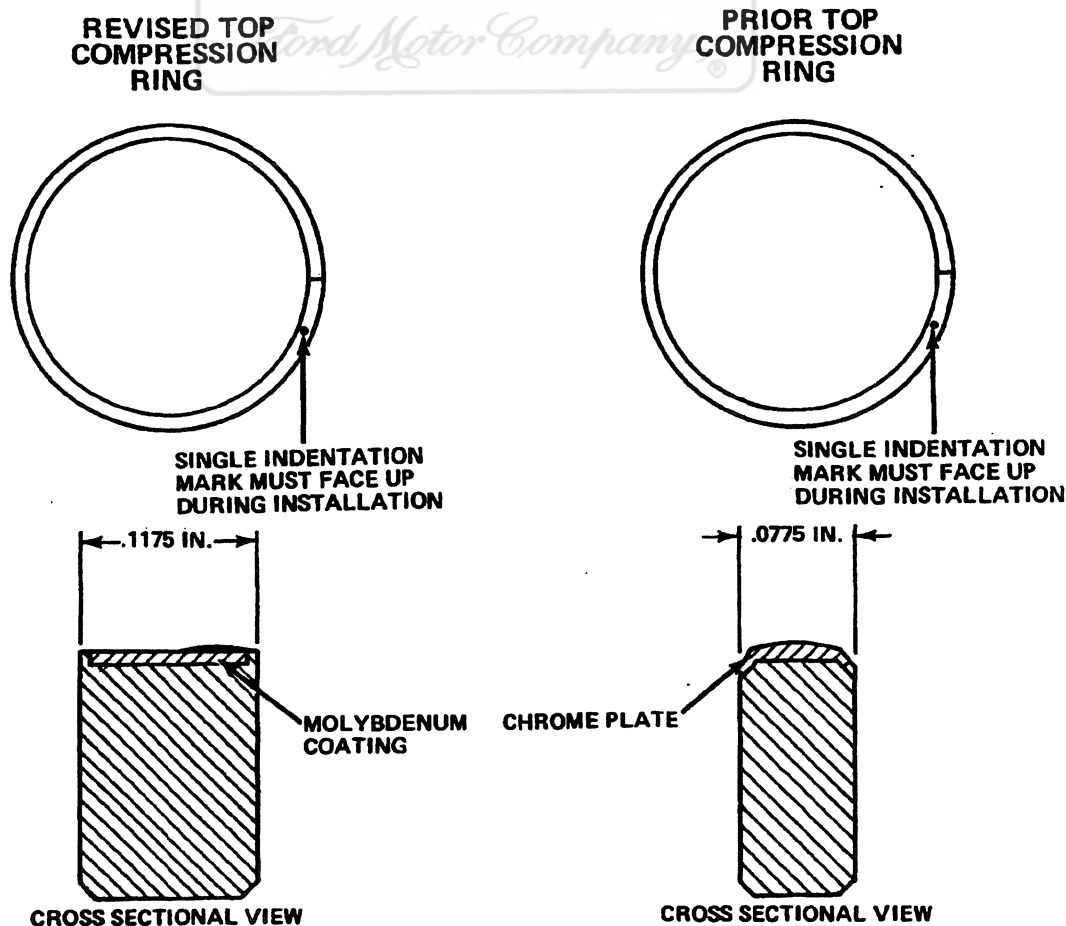

Figure 5.5. Top Compression Ring
1. The top compression ring is identified by one indentation mark located on top of the ring, and ring width as shown in **Figure 5.5**.